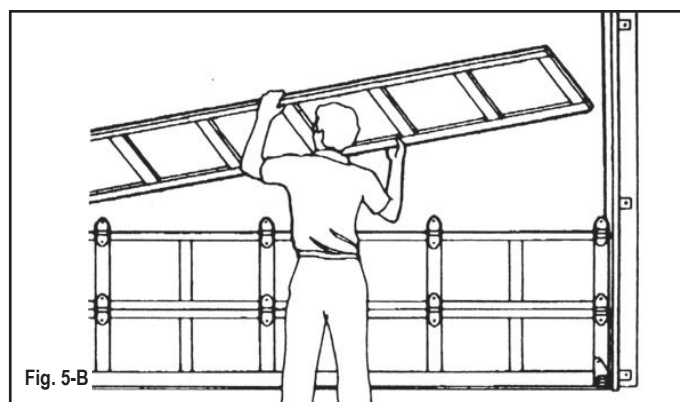

Fig. 5-B
- Place C-clamps or locking pliers tightly on both sides of track under door so door is held securely in place (Fig. 5-A).
- Starting with top section, remove hardware and unstack sections one at a time (Fig. 5-B).